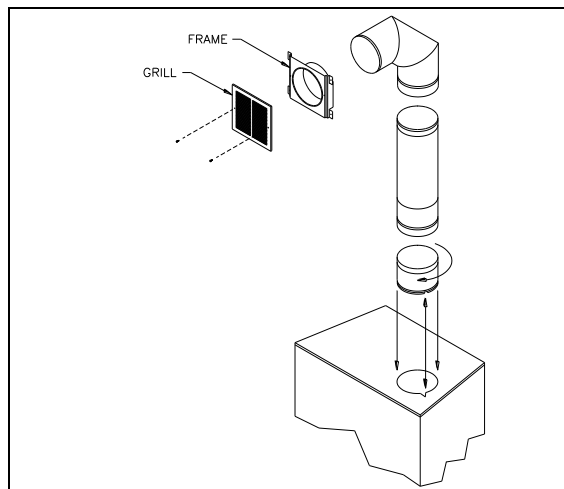

Figure 16
(See figure 16)
1. Remove the plates closing up the 8" dia. holes on top of the fireplace. Then, cut the insulation in order to obtain two 8" dia. openings. Fix the adaptors on the fireplace openings by turning clockwise (figure 16).